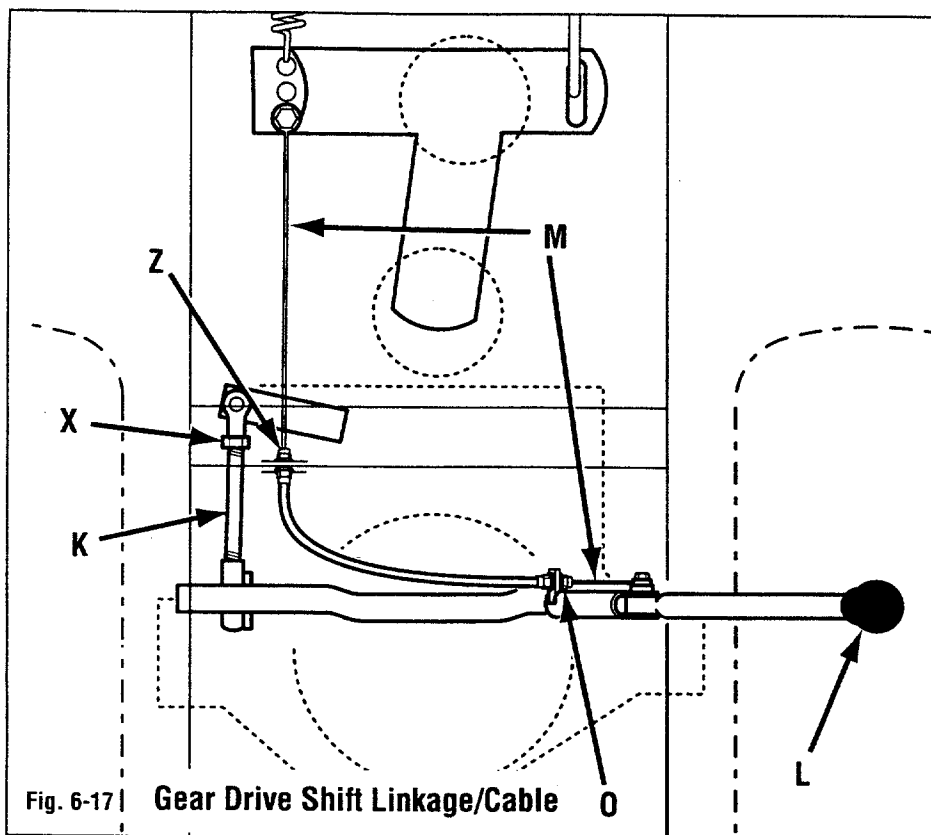

Fig. 6-17 | Gear Drive Shift Linkage/Cable
- Loosen jam nut (X, Fig. 6-17). Rotate shift rod (K) 1 to 2 turns. Check adjustment. Repeat as necessary. Tighten jam nut (X).
Place gear shift lever into "1st" gear position. Gear shift lever should be resting on outside quadrant edge (W, Fig. 6-18). Pull gear shift lever (L, Fig. 6-17) in toward center of unit until slack in shift cable (M, Fig. 6-17) is taken up. Adjust shift cable at (Z & O, Fig. 6-17) until a 3/8" gap between outside of shift lever and shift quadrant (Fig. 6-18) exists.